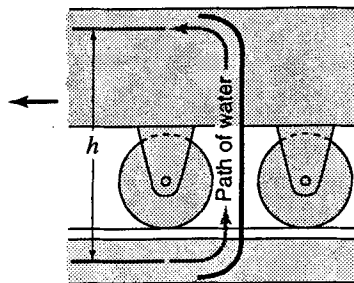

Figure P6.24
6.24 A locomotive tender running at 20 mph scoops up water from a trough between the rails, as shown in Fig. P6.24. The scoop delivers water at a height  $h = 8$  ft above its original level and in the direction of motion. The area of the stream of water at entrance is  $40$  in2. The water is everywhere under atmospheric pressure. Neglecting all losses, what is the absolute velocity of the water as it leaves the scoop? What force on the tender does the water cause? At what minimum speed will water rise to the height  $h$  above the original level?